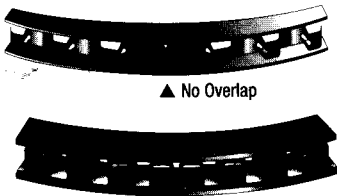

Figure 4 ▲ No Overlap
1. Make sure oil ring expander ends are butted properly and do not overlap. (fig. 4)